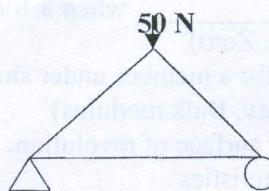

Fig 4 (NOT TO THE SCALE)
- [B] Find member forces in all members of the given truss fig 4. Length of all members is 3m.
- [B] Find MI of the lamina of fig. 4 about its centroidal horizontal and vertical axes.